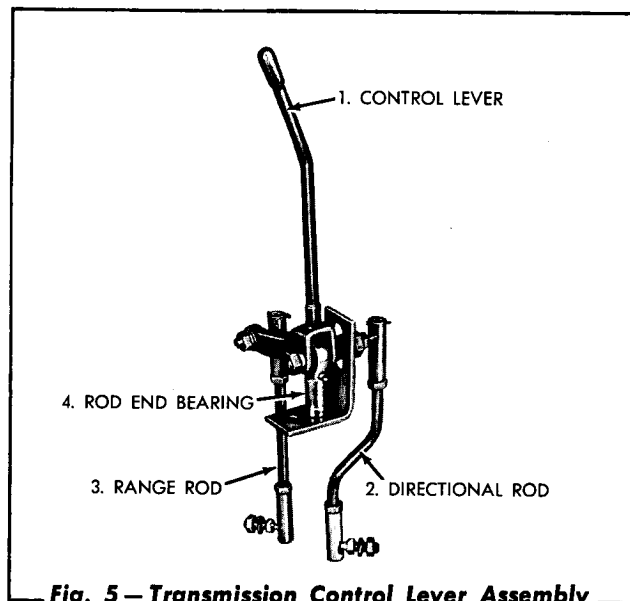

Fig. 5 — Transmission Control Lever Assembly
- c. Disconnect the directional and range rods from the lower lever assembly by removing the hex nuts and lockwashers and pushing the ball stud from the lever assembly, Fig. 5.